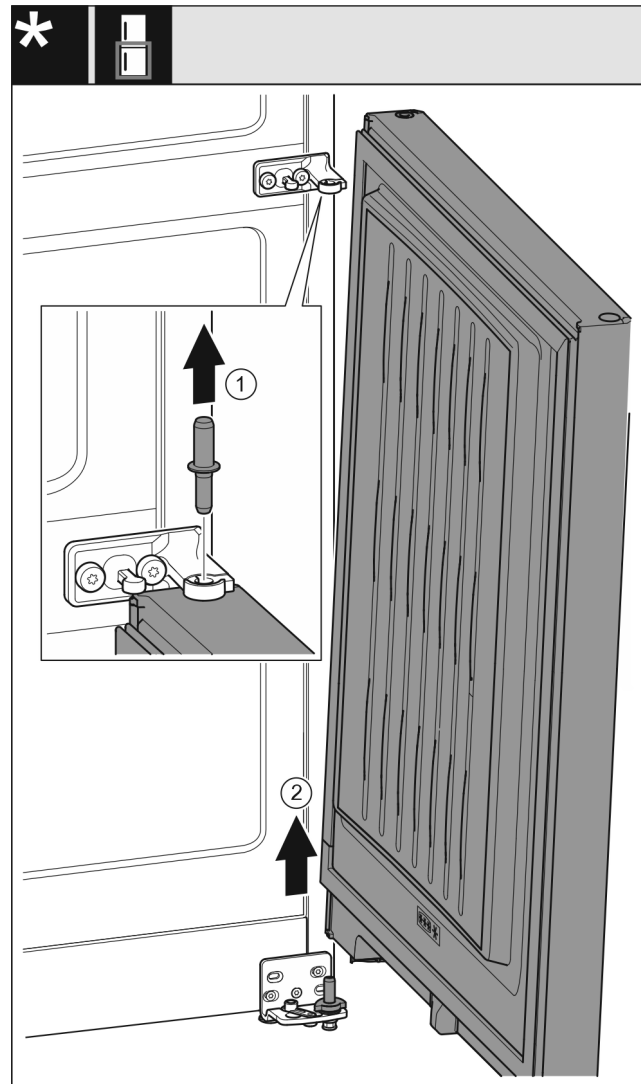

Fig. 8
- ▶ Pull out the bolts upwards. *Fig. 8 (1)*
- ▶ Swing the door out, pull it upwards and place it to one side. *Fig. 8 (2)*